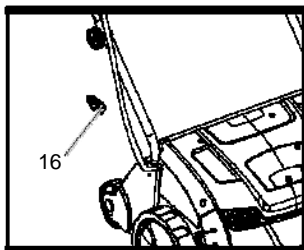

Fig. 5
e). Fix the cord with the cord clips (16) to the handle bar (Fig. 5).